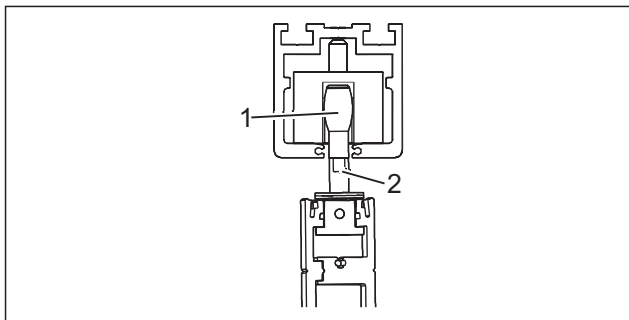

Fig. 45 Loosen the swing panel
- Loosen the swing panel by loosening the nut on the bolt (Fig. 45/1) using a 17-mm wrench.
- Loosen the bolts (Fig. 45/1) counter-clockwise using the wrench flat (Fig. 45/2) of a 8-mm wrench.